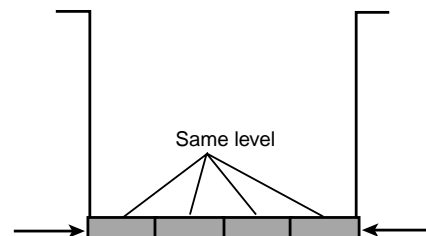

Figure 6. Sub Hue
9. Set the data with numeric keys 7 - 2 for waveform shown in Figure 6. (Flat Waveform) To turn off the Service Menu display, press the MENU key.